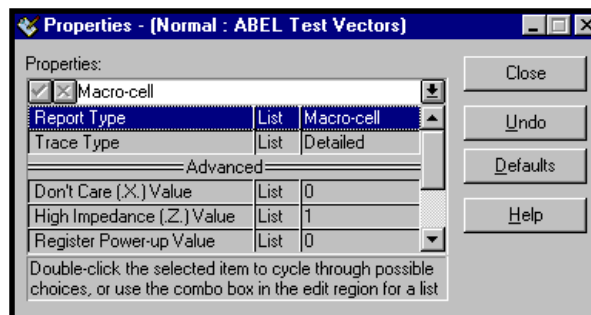

Figure 2-9. Set Report Type to Macro-cell
4. Select Report Type in the Properties list box and set the List property to Macro-cell (Figure 2-9).